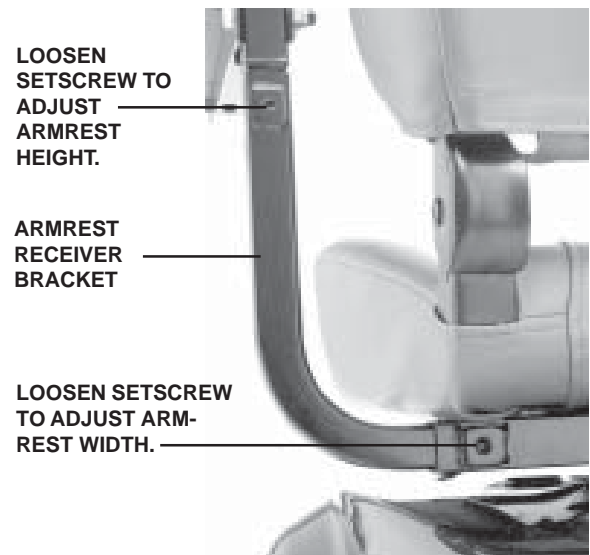

Figure 12. Armrest Width/Height Adjustment
1. Locate the setscrew on the armrest receiver bracket. See figure 12.
1. Loosen the armrest adjustment height setscrew located underneath the armrest. See figure 12.